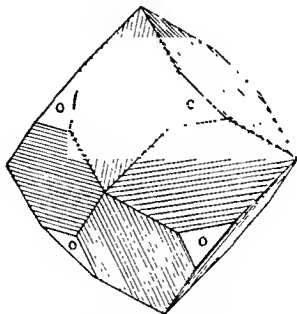

Figure 206. Magnetite, Striated Dodecahedron
*Forms:* Crystals are *isometric*, usually in octahedrons, less frequently in dodecahedrons often with striated faces, figure 206, rarely in highly modified crystals and "spinel twins," figure 103, cubes exceedingly rare. Also occurs, more plentifully, massive and coarse or fine-granular. "Black Sand" often consists largely of magnetite grains and minute crystals.